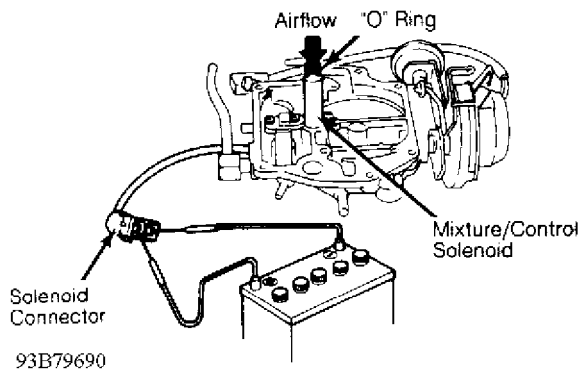

Fig. 14: Checking Mixture Control (M/C) Solenoid
5) To check Mixture Control (M/C) solenoid, apply battery voltage across solenoid using solenoid connector. See Fig. 14. From bottom of air horn, blow air through valve in direction indicated. If air does not flow through valve with solenoid energized, replace air horn assembly (M/C solenoid and air horn are replaced as an assembly).